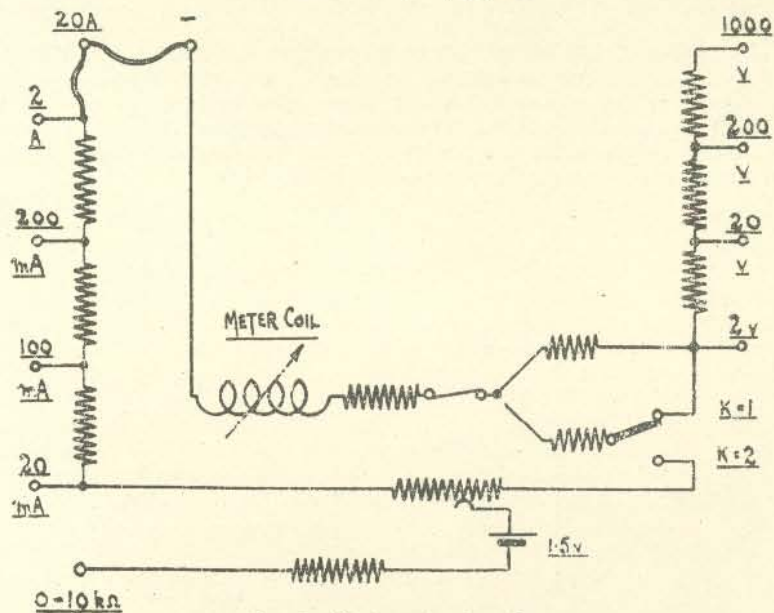

FIG. 5.—Test meter, type E.
- (ii) *Type E* (D.C. only).—This is similar to type C, with ranges as shown in fig. 5. The operation is similar, except that the positive lead is inserted in the desired socket, and there is a switch which doubles the range of the instrument when reading volts.